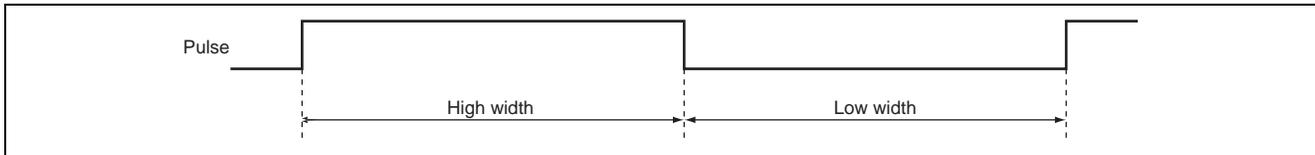

Figure 1 Timing of the Measurement of Pulse Width
- (1) Measures the low and high periods of a pulse and stores the results in the on-chip RAM, as shown in figure 1.
- (2) In operation at 19.6608 MHz, the measurement of pulses with high and low widths is possible for every 50.86 ns between 0.86 ns and about 3.33 ms.